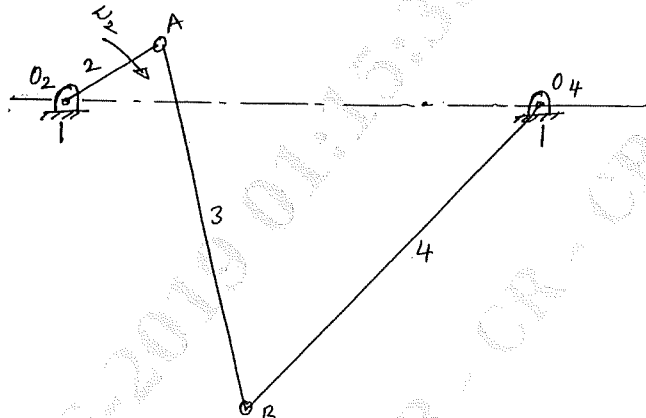

Fig.Q.4(a)
- 4 a. In a four bar mechanism shown in Fig.Q.4(a) the link 2 is driven at 36 rad/sec. Find the velocity of link 3 and the velocity of point B by Instantaneous center method. Link $O_2A = 50\text{mm}$, $O_4B = AB = 200\text{mm}$, distance $O_2O_4 = 175\text{mm}$. (12 Marks)